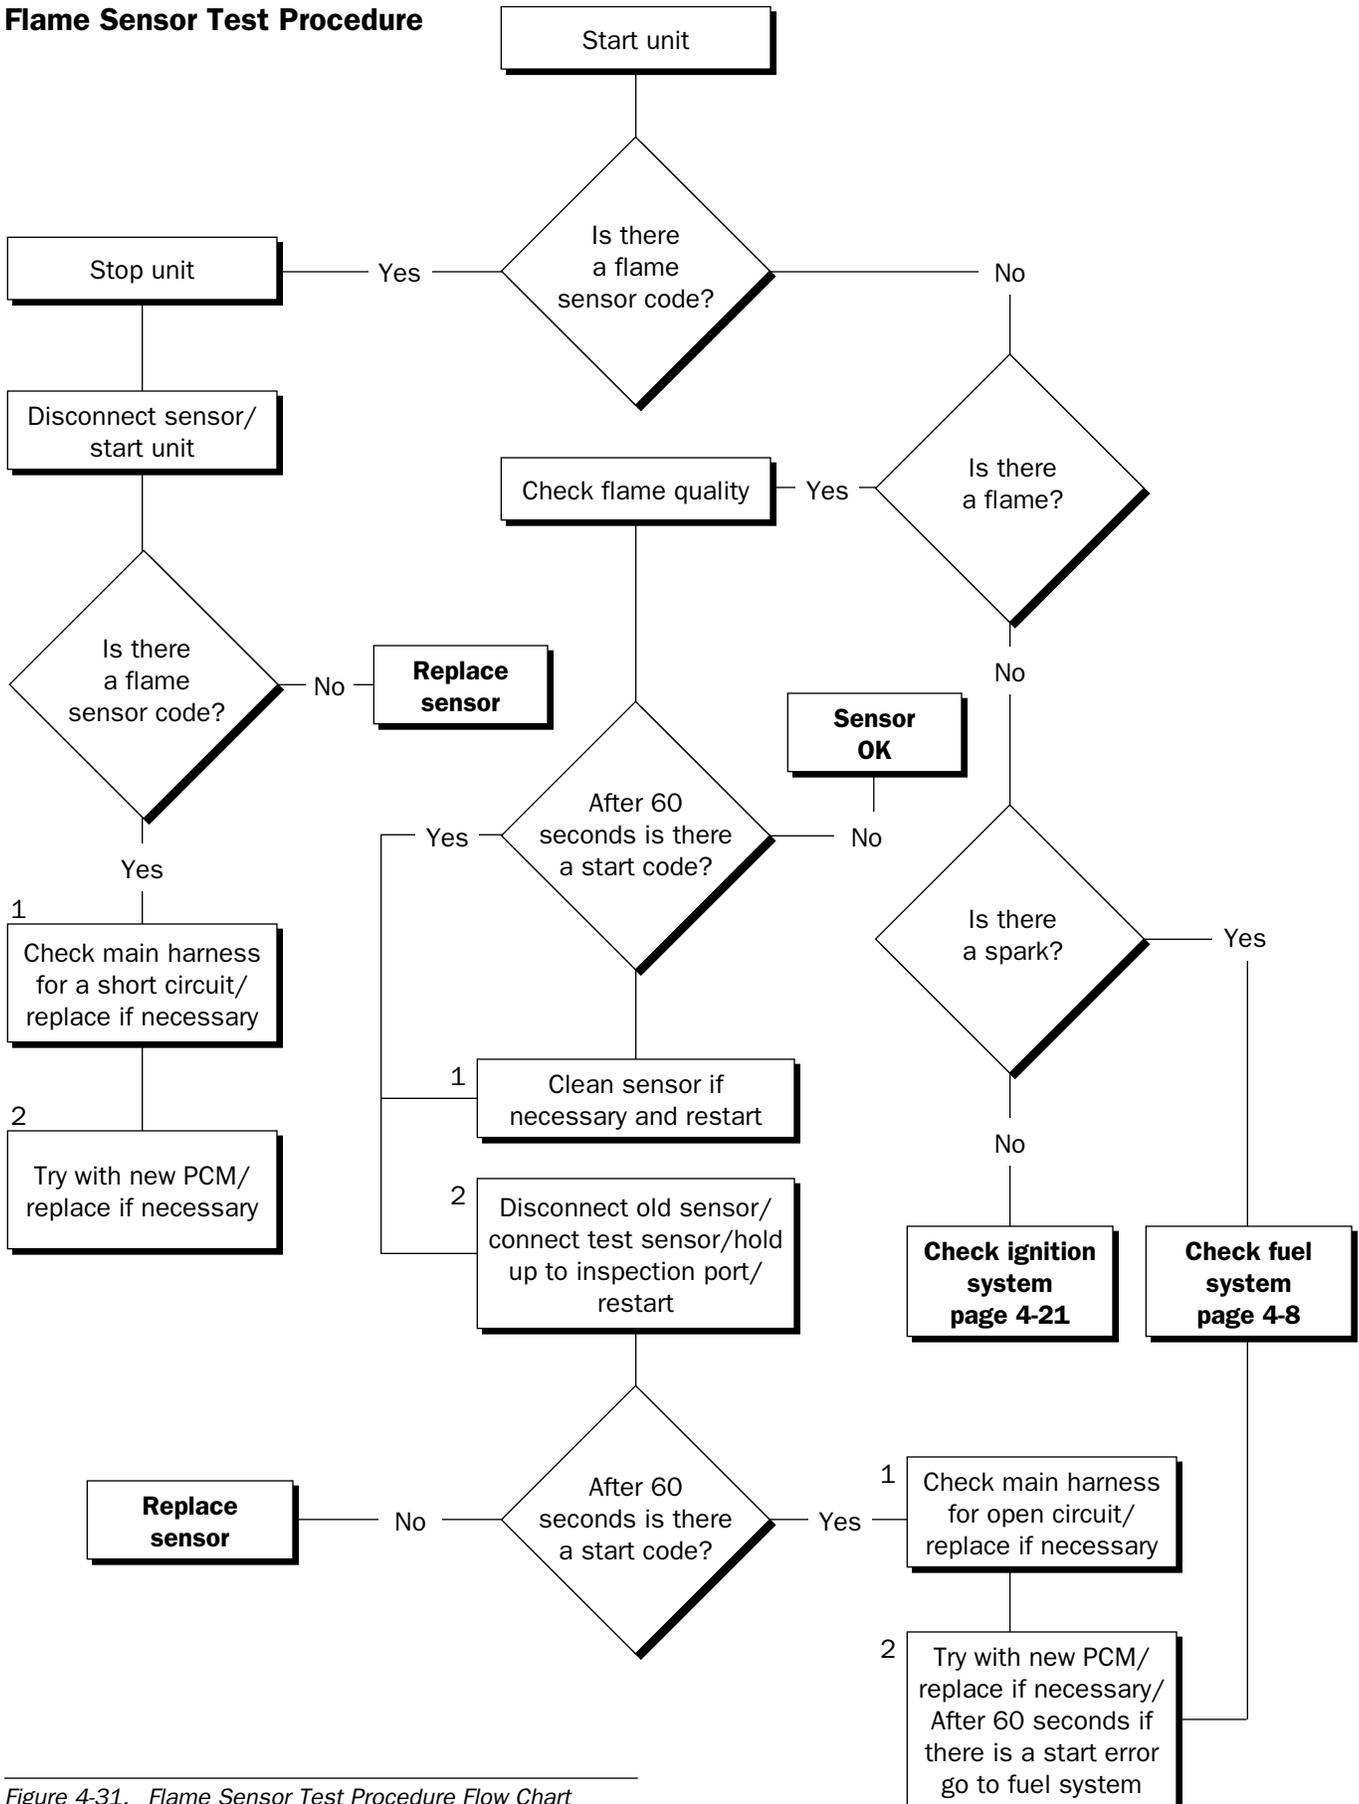

Figure 4-31. Flame Sensor Test Procedure Flow Chart
- Test the flame sensor. (See following page for flowchart, Figure 4-31.)